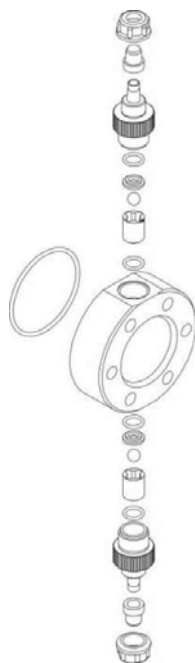

Fig. 9
- g. - Select the most appropriate injection point on a pipe of the plant to be treated and there fit a 1/2" female steel gas thread connector. This connector is not supplied with the pump. Screw the injection valve to the gas connector, inserting a gasket as shown in Fig. 9. Then connect the discharge hose to the conical connector on the injection valve and fix it with the supplied tube nut G. The injection valve also acts as no return valve
- the additive concentration in the pipework; a reduction of this concentration could be caused by the wearing of the valves, in which case they need to be replaced (Fig. 9) or by the clogging of the filter which then has to be cleaned as in point 3 here below.
This operation can also be done with the pump disconnected from the plant by turning the pump upside-down for 15 to 30 seconds and without connecting the hose to the nipples; if impossible, dismount and remount the pump head (Fig. 9 WIRING CONNECTION AND OUTPUT CONNECTOR FUNCTIONS) using the four mounting screws.